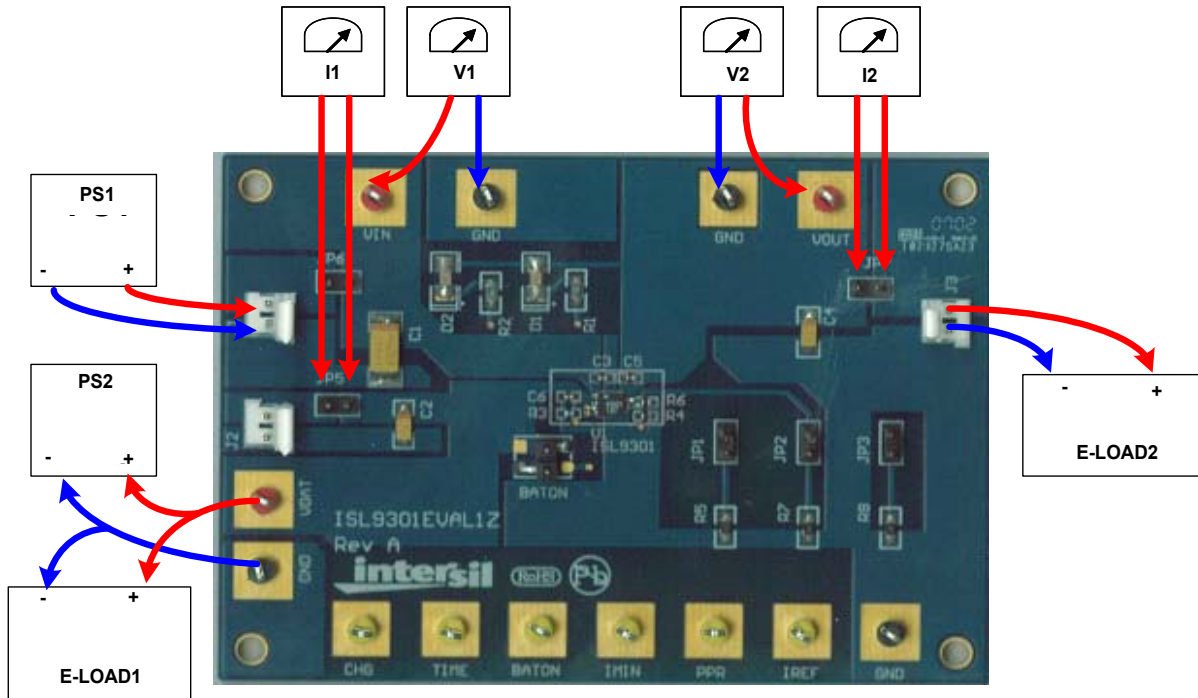

FIGURE 1. CONNECTION OF EQUIPMENT
### Quick Setup Guide (Refer to Figure 1)
- Step 3: Connect a current meter to JP5 as shown in Figure 1
JP5 - A shunt installed on JP5 connects the BAT pin to the output connector J2 if IBAT measurement is not needed. The shunt can be replaced by a current meter if charge current measurement is needed as shown in Figure 1.
JP6 - A shunt installed on JP6 connects the VIN pin to the output connector J1 if output current measurement is not needed. The shunt can be replaced by a current meter if input current measurement is needed as shown in Figure 1.
output current measurement is needed as shown in Figure 1.